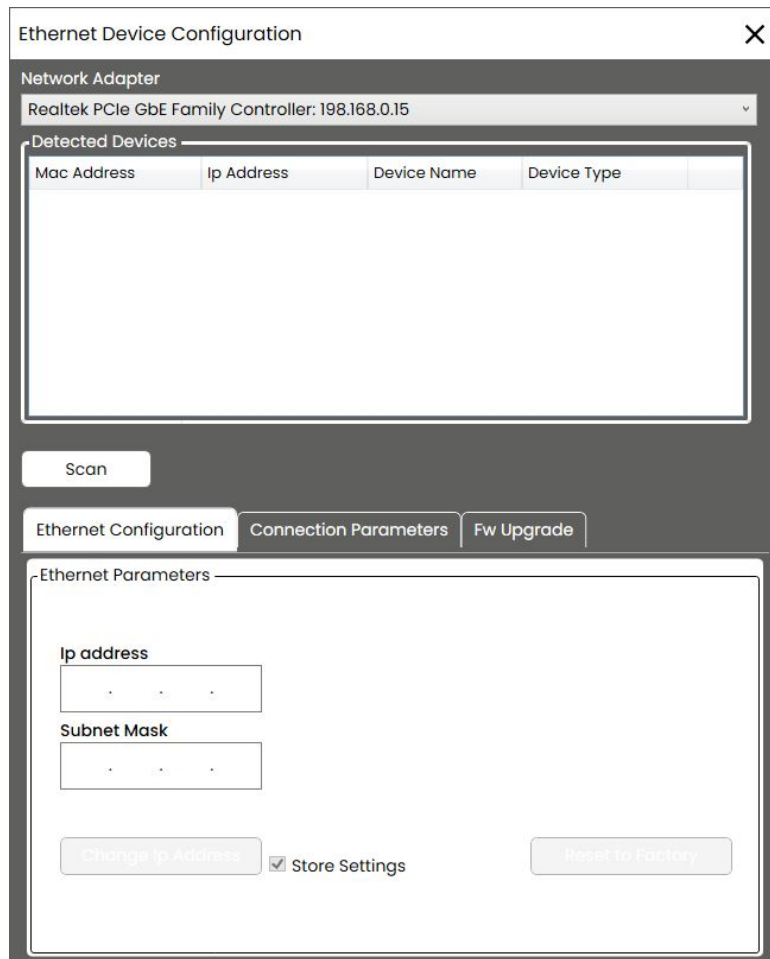

Figure 5.4: Ethernet Device Configuration
- Ethernet Device Configuration, as shown in Figure 5.4: to manage and update Camozzi devices that support this functionality via an Ethernet connection. See Chapter 5.9 for details.